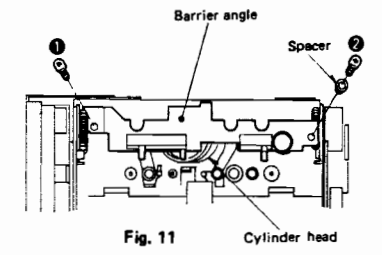

Fig. 11
2. Remove the 2 screws (① , ②) and remove the barrier angle board (Fig. 11).